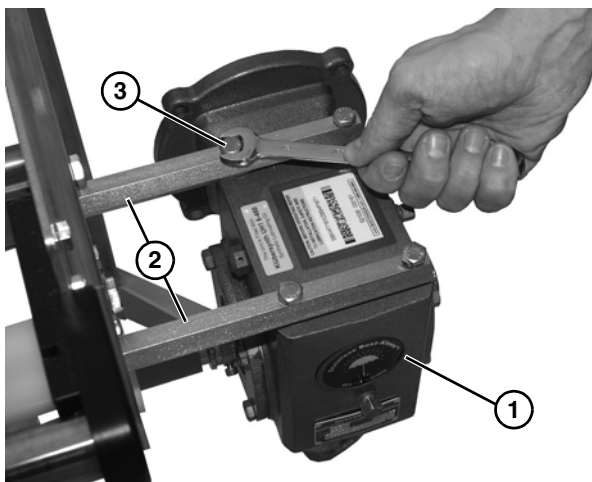

Figure 7
4. Attach the gearmotor assembly (**Figure 7, item 1**) to the gear reducer hex mounting posts (**Figure 7, item 2**) with four bolts (**Figure 7, item 3**).